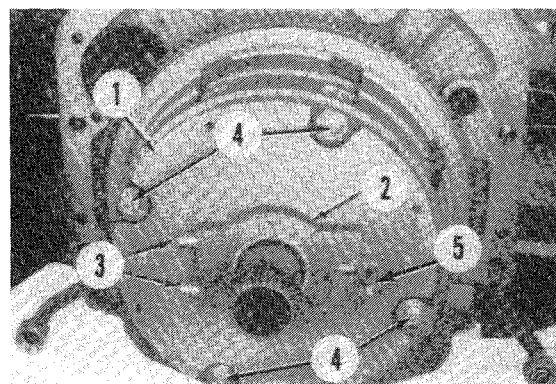

Fig. 150—View of Power Shift traction clutch assembly.
To reconnect engine to clutch housing, reverse the splitting procedure while noting the following additional instructions. Be sure ends of clutch oil manifold sealing rings are interlocked and manifold (2—Fig. 150) is seated against traction clutch assembly (1) to prevent damage to seal rings during assembly. Be sure oil manifold pistons (3) are fully seated in manifold. Check for proper installation of high and low range clutch shafts in transmission by measuring the distance the shafts protrude from face of clutch housing. On 4050, 4250 and 4450 tractors, end of low range shaft should be 0.8-0.9 inch (20.5-23.0 mm) from face of clutch housing and end of high range shaft should be 2.71-2.82 inches (68.8-71.5 mm) from face of clutch housing. On Models 4650 and 4850, the low range shaft should protrude 1.17-1.27 inches (29.7-32.25 mm) and high range shaft should protrude 3.29-3.39 inches (83.5-86.0 mm). Engine and clutch housing should slide together when properly aligned. Do not use mechanical force to draw units together. Be sure clutch oil manifold pin (5) is engaged in pto drive gear support hole before rotating
132. TRACTION CLUTCH ASSEMBLY. To remove traction clutch, separate clutch housing from engine as outlined in paragraph 131. Rotate clutch assembly until tapped hole in C1 clutch drum is at the top. Attach a lifting eye to clutch drum using a 12 mm cap screw and a flat washer. Support weight of clutch assembly with an overhead hoist, then remove the four mounting cap screws (4—Fig. 150). Pry clutch assembly from dowel pins in flywheel.